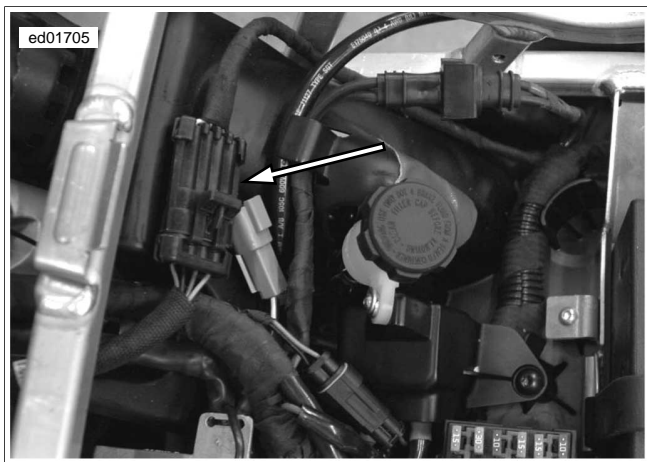

Figure 3-10. Fuel Pump Connector [86]
1. See Figure 3-10. Disconnect fuel pump connector [86] located under the seat.